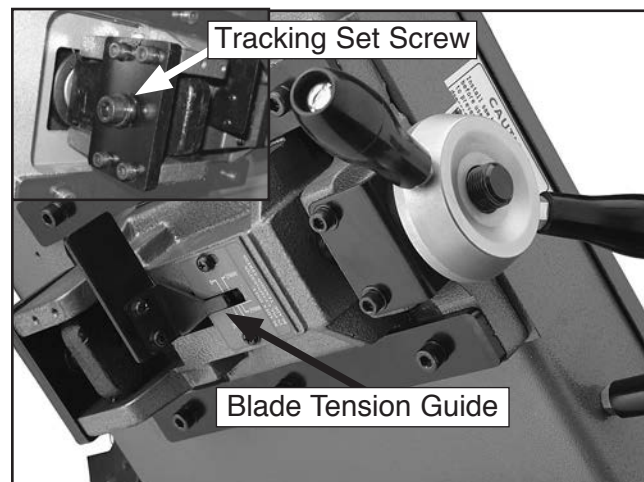

Figure 44. Blade tension guide.
2. Use the graduated scale on the blade tension indicator (**Figure 44**) to determine blade tension in PSI.
1. Turn the tracking set screw (hidden from view) in **Figure 44** until the blade is tracking properly.